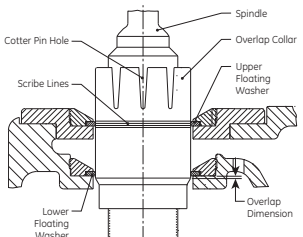

Figure 12: Collar and Spindle Assembly
- 8. Remove the overlap collar cotter pin from the collar and spindle assembly. Note which overlap collar notch is opposite the cotter pin hole in the spindle (See Figure 12). Carefully counting each collar notch that passes in front of the cotter pin hole in the spindle, begin rotating the collar counterclockwise until the bottom line (of the four lines) on the collar is even with the upper floating washer. Record the number of overlap collar notches that passed in front of the cotter pin hole in the spindle, as this information will be required to correctly re-assemble the valve.